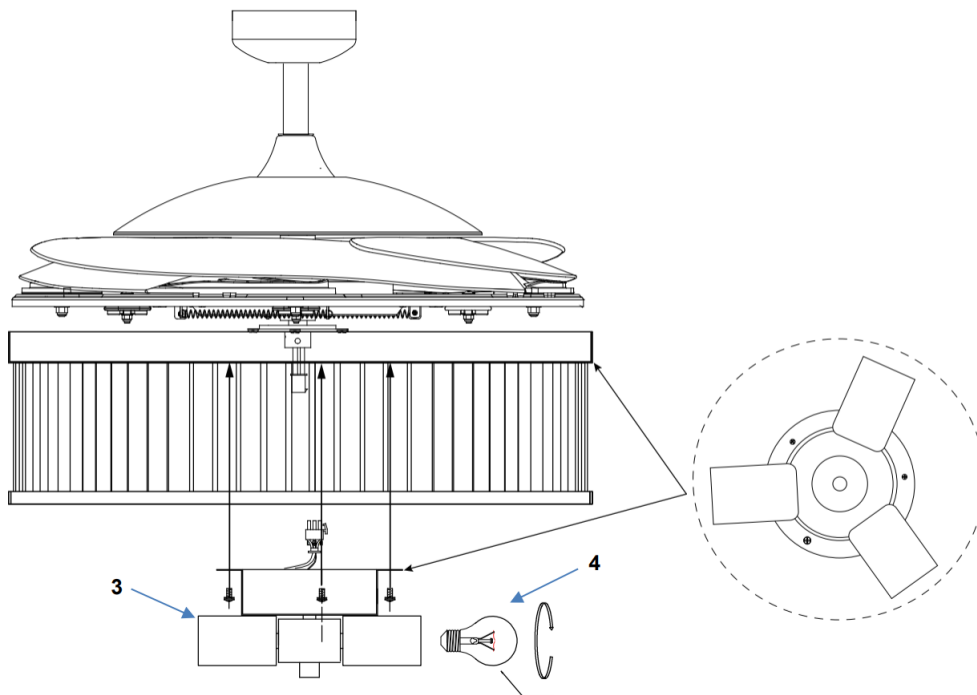

Fig. 8
4. Connect the quick connector to the lamp holder part (3). (Fig. 8)
5. Secure the lamp-holder part (3) to the lamp shade by tightening the 3 screws. Do not over-tighten.
6. Install globes (4) into the lamp holders. Do not exceed the maximum power rating.